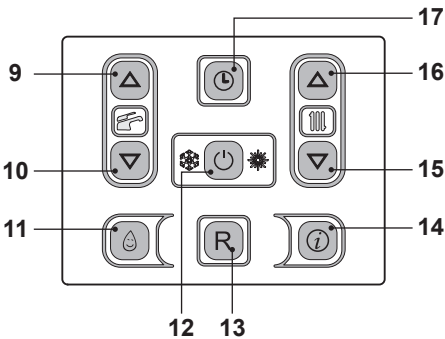
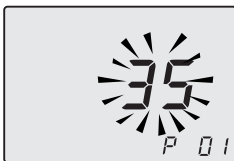

Fig. 7.49
Fig. 7.50
- Enter the "programming mode" by pressing keys 12 - 15 - 16 (Fig. 7.49) for 10 seconds at the same time until the letters **P01** are displayed on the LCD display and the value of the parameter (41=Inovia 25S ERP), indicating that "parameter 01" (Fig. 7.50) has been activated.
- Press keys 9 or 10 to change the value and confirm the value of the parameter with key 12.
- Press keys 15 or 16 (Fig. 7.49) to exit without changing the value.